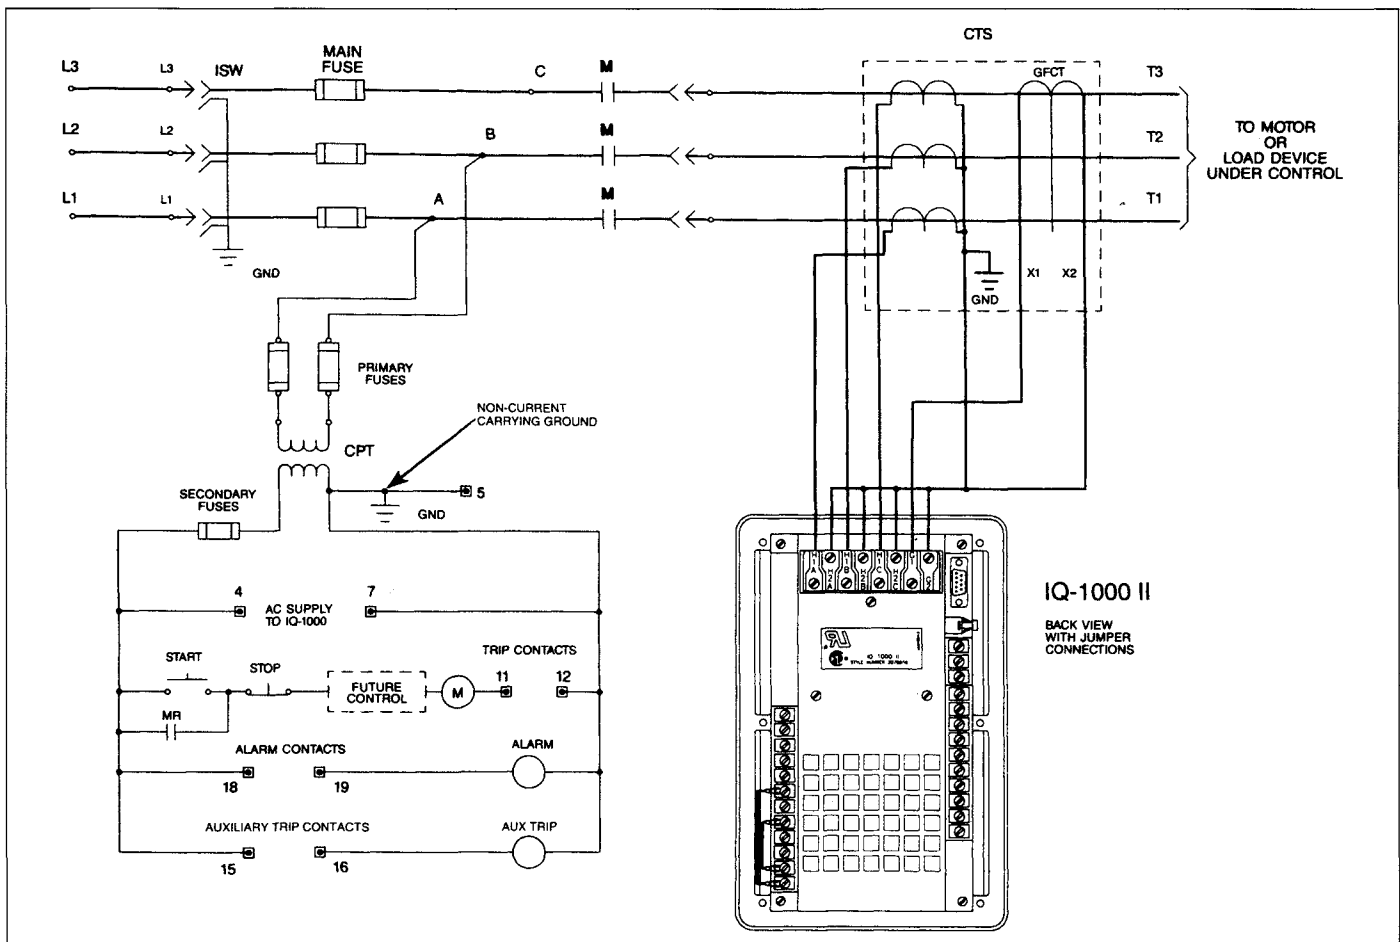

Fig. 7.9 Partial Wiring Plan Example
7.5 WIRING CONSIDERATIONS — A suitable wiring plan that shows the interconnections between the IQ-1000 II and the associated machine or process must be developed by the user. This paragraph contains information needed by the application engineer who is developing a specific wiring plan. A typical example of a wiring plan is shown in Figure 7.9.